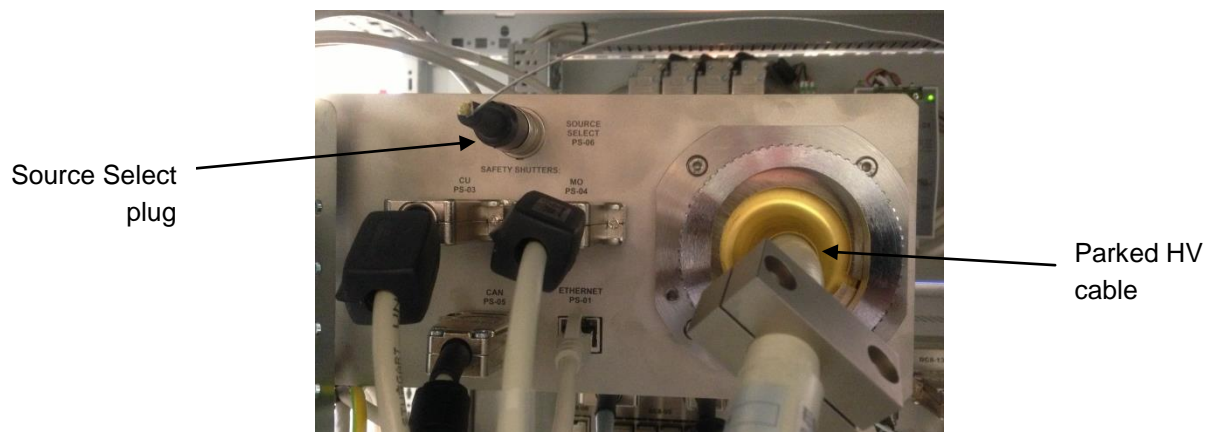

Figure 13 HV cable parking position with Source Select plug (Gemini only)
9. Remove the HV cable from its parking position and also remove the indicator plug from the *Source Select PS-06* socket (see **Figure 13**).